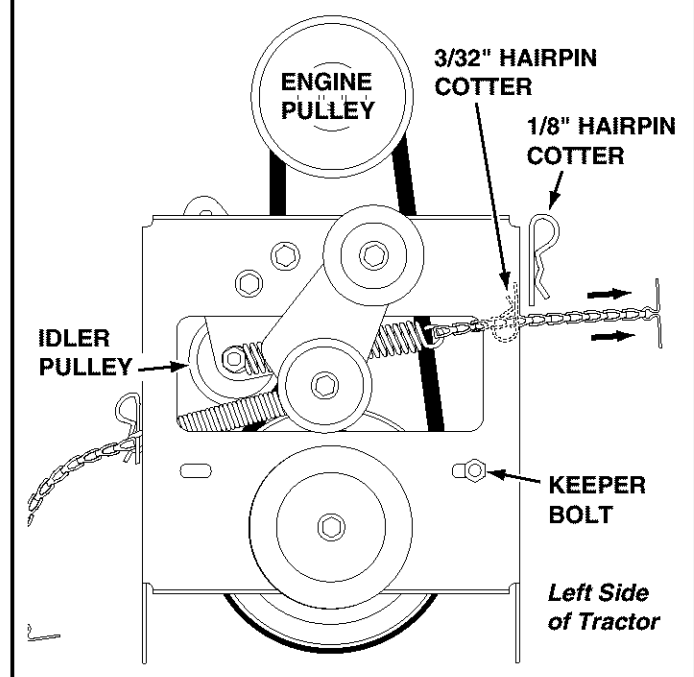

FIGURE 14
- Assemble the short "V" belt onto the engine pulley and then onto the large pulley on the clutch/idler assembly. The belt must be placed to the inside of the idler pulley and the keeper bolt. See figure 14.
- Place tension on the belt by pulling the left side tensioning chain out as far as the 3/32" hairpin cotter will allow. Secure the chain with a 1/8" hairpin cotter. See figure 14.